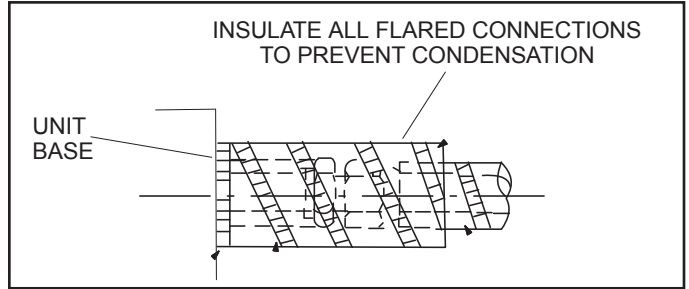

Figure 5. Insulate Flared Connections
8. After refrigerant piping has been installed and checked for leaks, apply insulation over all flared joints ensuring an air tight seal has been made between unit connections and field supplied insulated piping. All field piping connections shall be insulated and air tight to prevent unwanted condensation build-up. Figure 5.
Flared connections should always be accessible and must be insulated to prevent condensation. See Figure 5.